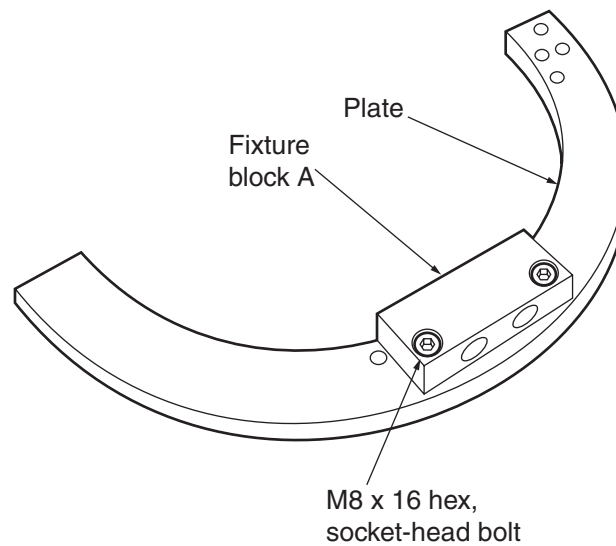

Figure 1-7. Fixture Block A Attached to Plate
2. Secure Fixture block A to one of the two plates with two M8 x 16 hex, socket-head bolts. Tighten to a torque of 36 ± 7.2 Nm. Repeat this step for the other plate and Fixture block A assembly. See Figure 1-7.